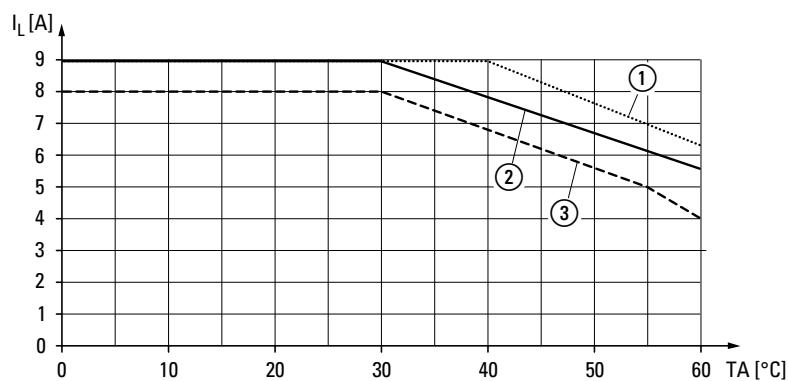

Figure 56: Derating curve rated operational current
- ▶ Calculate the maximum rated operational current for the maximum ambient air temperature at which the device will run based on the relevant installation situation for the electronic motor starter; → Figure 56.